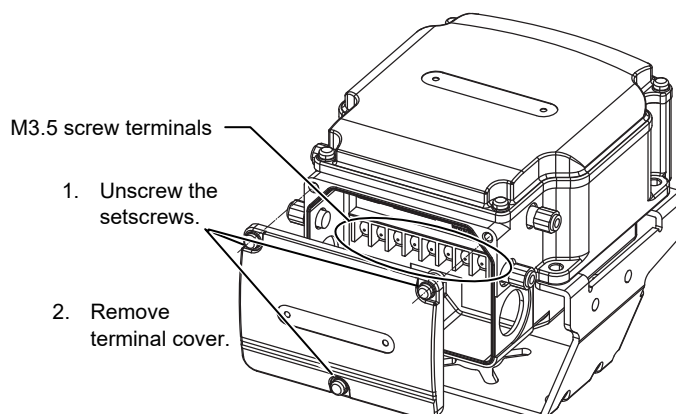

Figure 10. Terminal cover removal
- 2) Unscrew the 3 setscrews (M4 × 10) of the terminal cover and remove the terminal cover, as shown in Fig. 10.